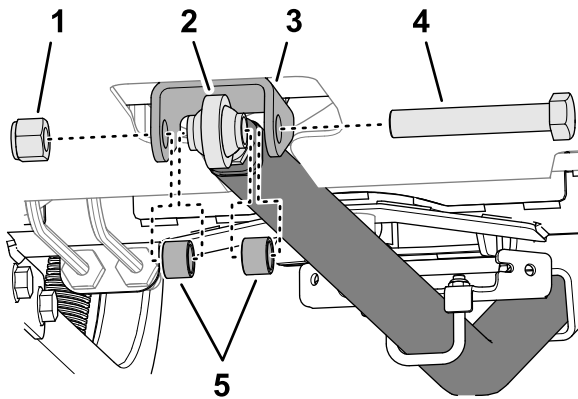

Figure 13
9. Align the hole in the rod end of the drawbar with the holes in the drawbar mount of the rear-frame bulkhead (Figure 13).
10. Assemble the rod end to the mount with the capscrew (3/4 x 4-1/2 inches), 2 spacer, and locknut (3/4 inch) as shown in Figure 13.